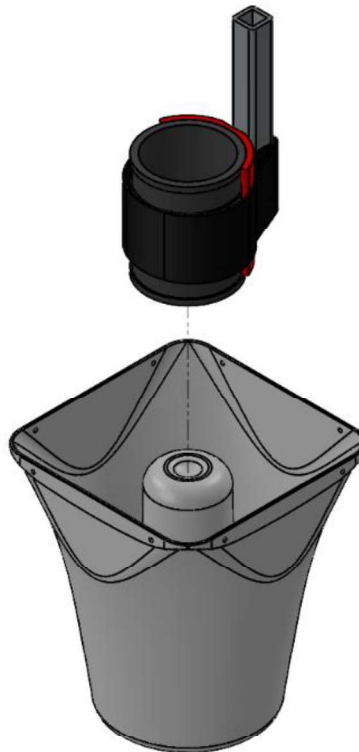

Figure 8 – Wrench Adapter Assembly Position on Re-Entrant Tip
- 2.4.3 Thread Re-Entrant Tip to Speaker Assembly until hand tight. Per Figure 8, affix Wrench Adapter Assembly (WA-001 and 156-99-005) to Re-Entrant Tip. Ensure Wrench Adapter Assembly is fully seated on Re-Entrant Tip and does not contact Loudspeaker Bell. Surface damage to the Bell may occur if the Wrench Adaptor contacts it during rotation.